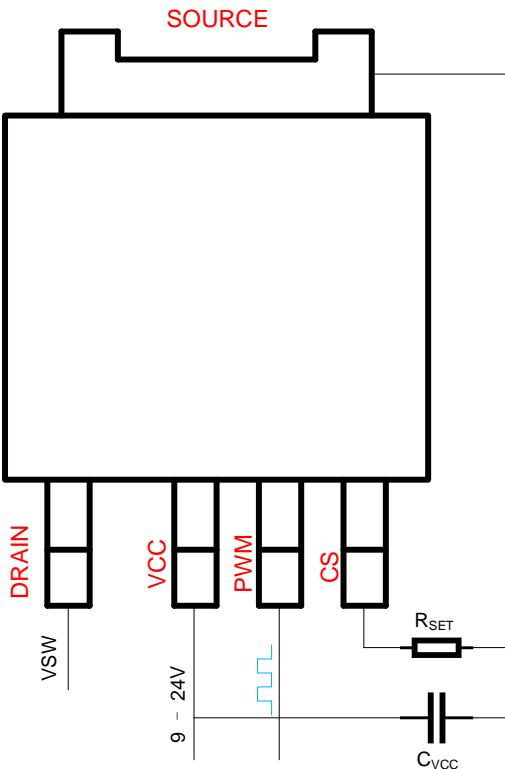

Figure 18. IC connection diagram
The typical connection diagram for this GaN Power IC is shown in Figure 18. The IC pins include drain of the GaN power FET (D), source of the GaN power FET (S), IC supply (Vcc), PWM input (PWM), and current sensing output (CS). The external components around the IC include Vcc filter capacitor (Cvcc) connected between Vcc pin and S pin, a current sense amplitude set resistor (R_{SET}) connected between CS pin and S.